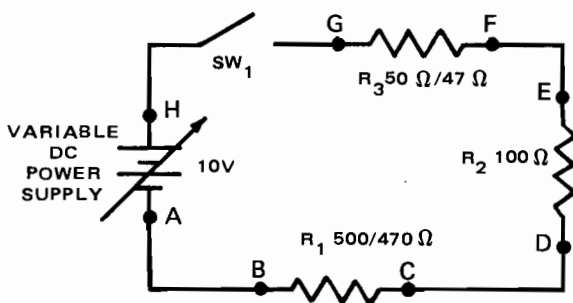

Fig. 5-1-1B
- Connect series dc circuit as in Fig. 5-1-1B. Use
2. Before turning on circuit switch, turn on variable dc power supply. Prepare VOM to measure dc voltage and connect it to test points A-H in Fig. 5-1-1B. Adjust power supply to produce 10 V dc.